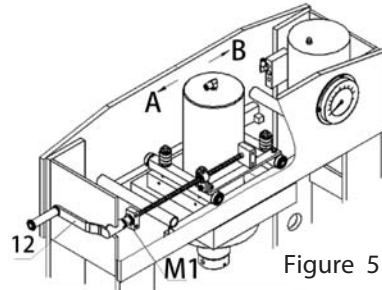

Figure 5
9. Insert the ram handle (#12) to the connecting shaft (M1). (Figure 5).